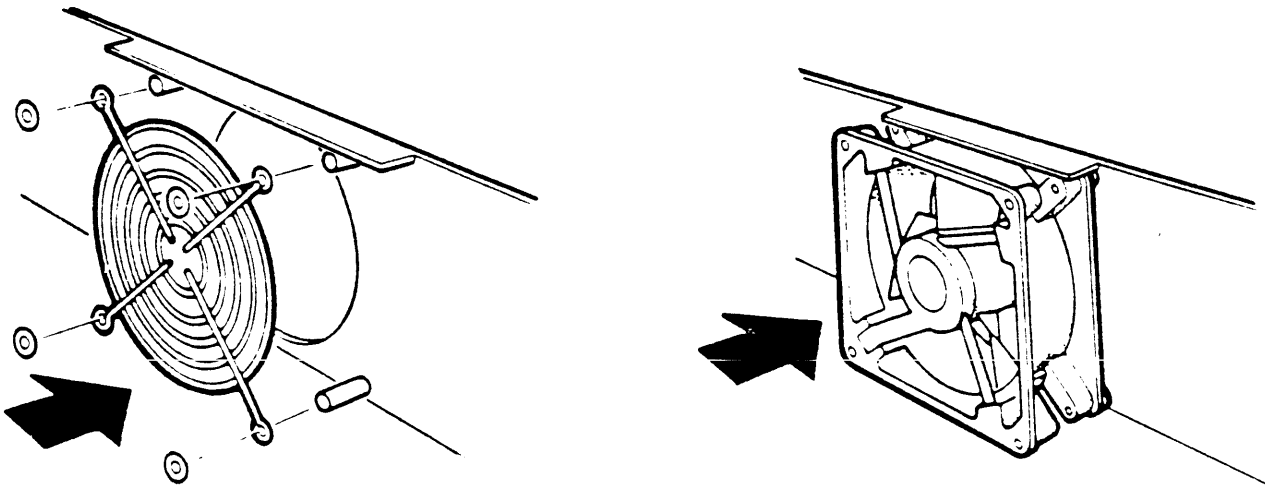

Figure 8-27 Install the Rear Fan.
1. Relocate the four screws and place the fan guard on the screws. Make sure the cross members of the fan guard face the inside of the unit (figure 8-27).